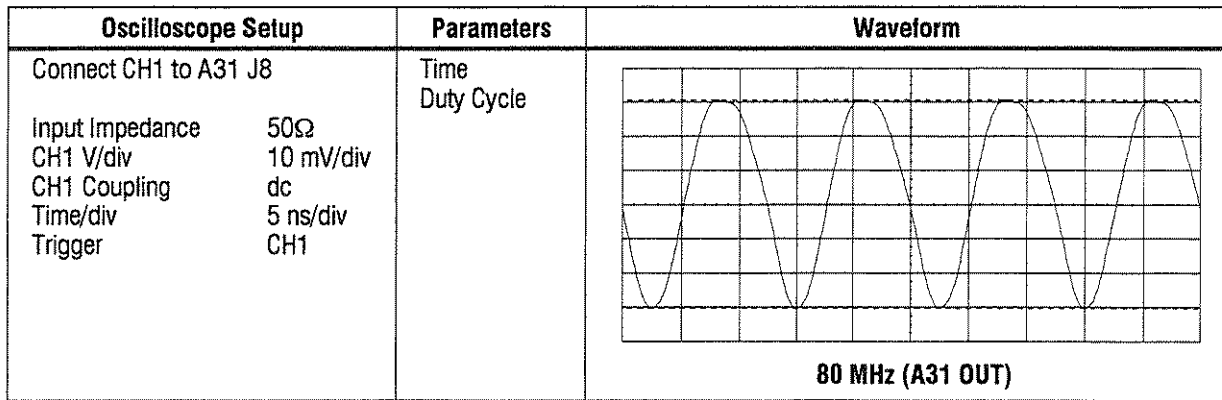

Figure 5-5. 80 MHz Reference Signal
15. Set the power switch to ON (1). Check the signals in figure 5-5 again. If the signals are now correct, the ADC/Digital Filter assembly's EXT_CLK signal is probably faulty. If the signals are still incorrect, the CPU assembly is probably faulty.